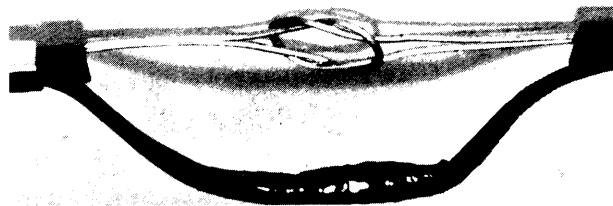

Figure 9
4.12 Place two clamps back to back by looping the bail of one clamp through the bail and over the wedge of the second clamp. Place the clamps approximately three to four inches back from each side of the completed splice. This will allow a two to three inch slack loop for the splice (see Figure 9).